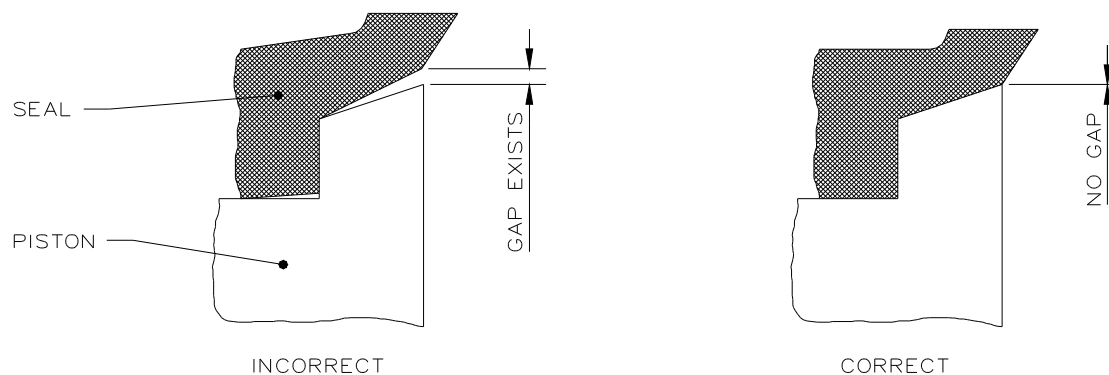

FIG. 8C : CORRECT SEAL INSTALLATION
- e) The seal is correctly installed when a gap does not exist between the piston and the seal, as shown in fig 8C.